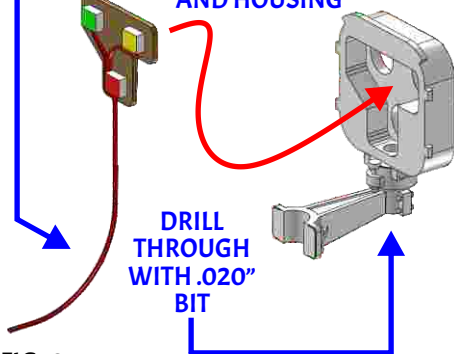

FIG. 2
DRILL THROUGH THE HOUSING/MOUNTING BRACKET ASSEMBLY WITH A .020" DRILL BIT TO ALLOW FOR THE LED WIRE (FIG. 2).
STEP 2 USING CANOPY GLUE TO ATTACH, INSTALL THE LED ASSEMBLY (SOLD SEPARATELY) INTO THE HOUSING BY FIRST ROUTING THE LED WIRES DOWN THROUGH THE HOUSING AND THE MOUNTING BRACKET (FIG. 2).